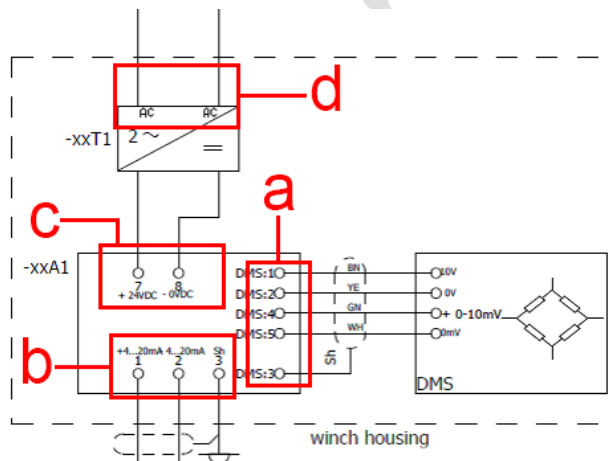

Figure 7
- Connect all cables to the WATTS/SUTTS card, including the 2 new cables. Refer to figure 7. Connect the cables as follows: